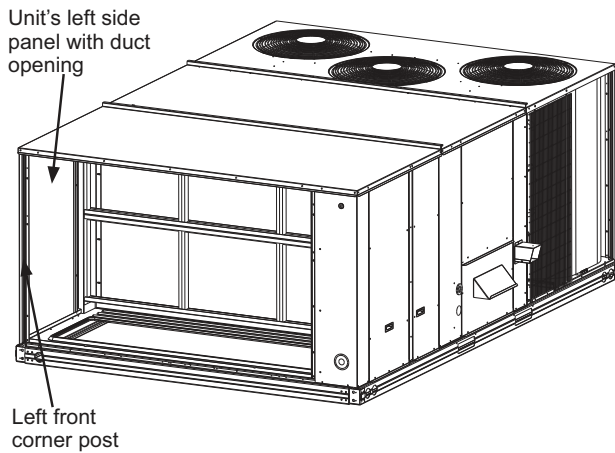

Fig. 18 — Remove Unit Corner Post and Side Panel
4. Remove the unit's left side corner post and left side panel from the unit to allow for easy economizer installation. (See Fig. 18.)